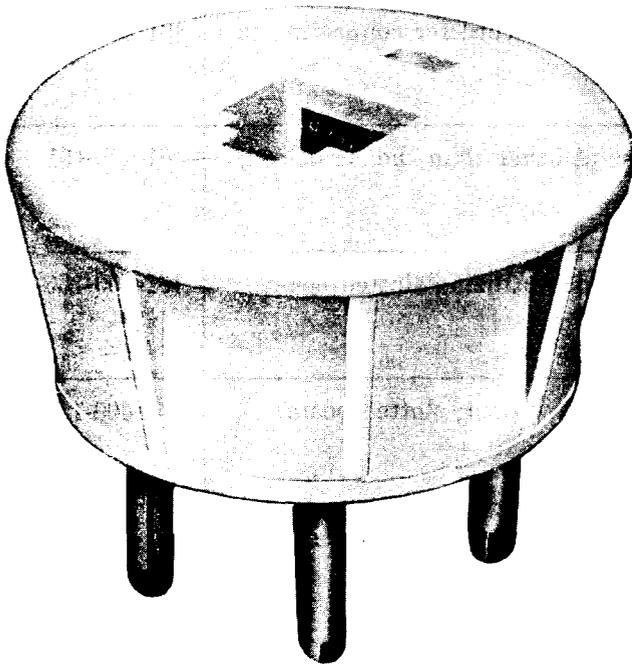

Fig. 2—225A Adapter
**2.02** The 225A adapter (Fig. 2) is used to adapt a modular telephone set to work in a 4-pin jack.